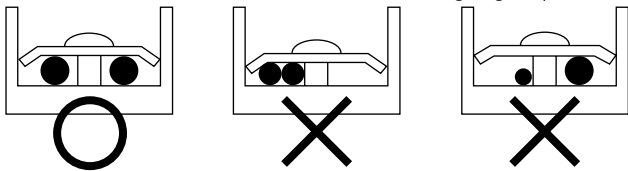

Fig. 33
- Observe the notes when wiring to the power supply terminal board. (Use a round crimp-style terminal with insulation sleeve for connection to the power supply terminal board. In case it cannot be used due to unavoidable reasons, connect wires of the same gauge to the both side as shown in Fig. 33.)